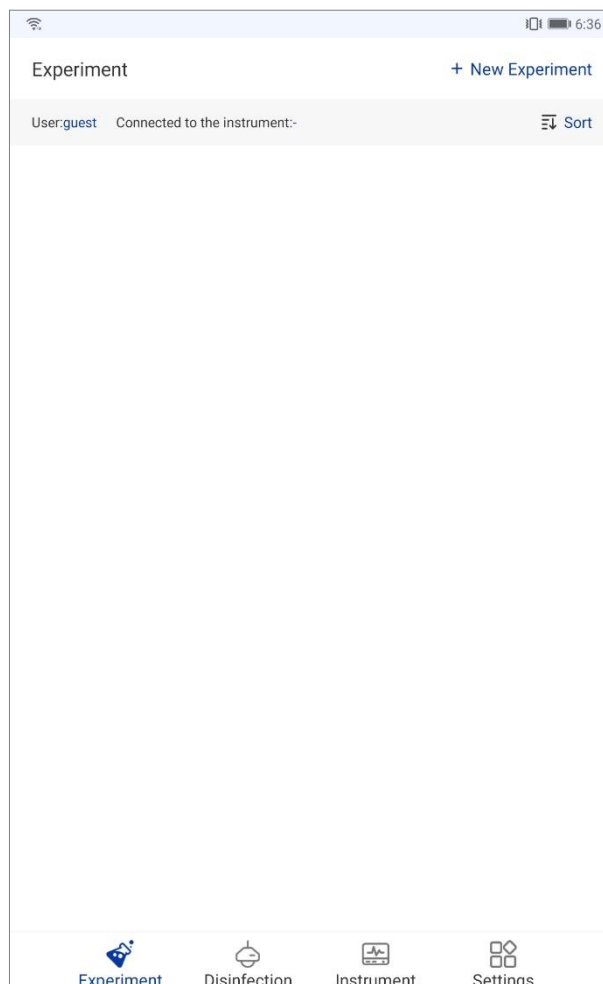

Figure 5-2. Application Software -Main Interface
After login, the application software will enter the main interface, as shown in figure 5-2.
**Reminding:** experiment tab is selected on the main interface by default, therefore the application software displays the Experiment interface by default, as shown in figure 5-2.